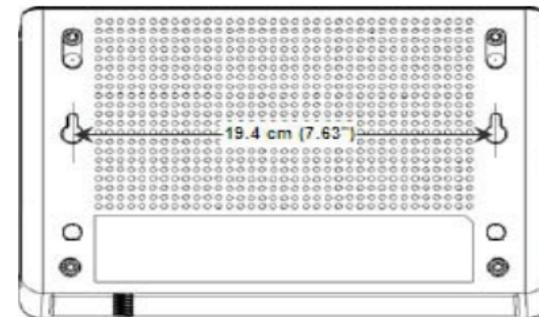
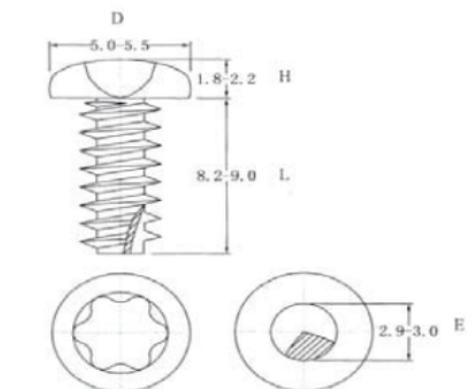

Figure 1: Distance Between Mounting Holes
Figure 2: Screw Size
- For wall mounting, use the mounting holes on the bottom of the device, as shown in Figure 1. Fasten two screws horizontally to the wall at a distance of 19.4 cm (7.63"). Allow screws to project from the wall so the device hangs securely on the screws. See Figure 2 for recommended screw size (D=5.0-5.5, H=1.8-2.2, L=8.2-9.0, E=2.9-3.0).